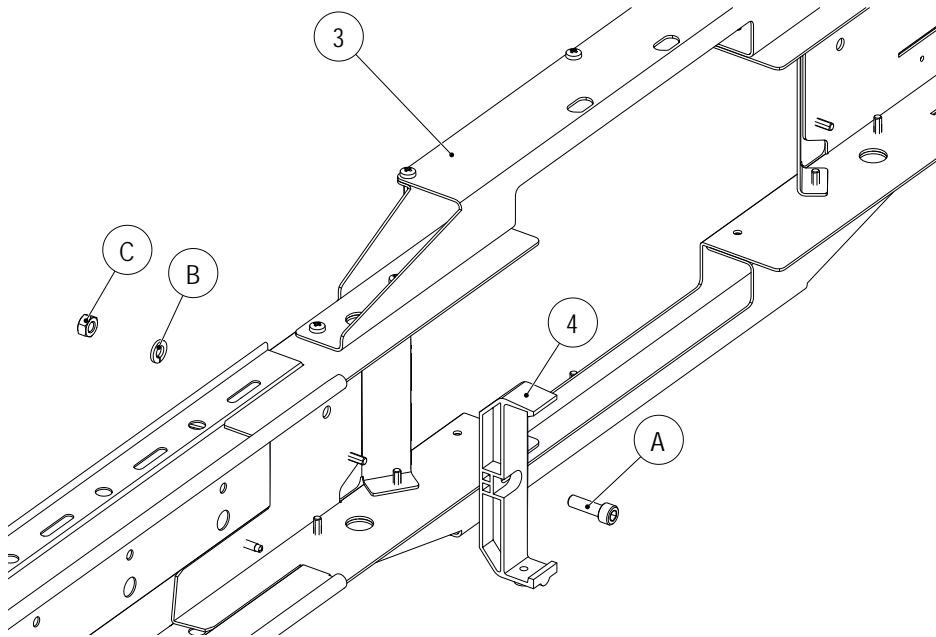
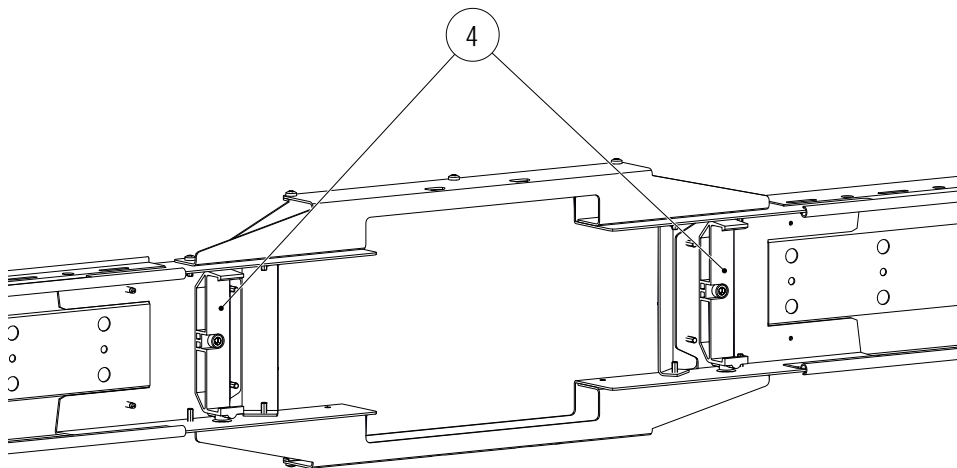

Fig. 69: Install anchor point (4) on fastening frame (3)
Fig. 70: Anchor points (4) are installed
1. If the anchor points (4) are not yet installed on the fastening frame (3), they must first be installed using the screw connections (A, B and C) (see Fig. 69 and Fig. 70).
- The anchor points are installed on the right and left of the fastening frame (see Fig. 69 and Fig. 70)
- The anchor points are installed on the fastening frame of the line feed (see Fig. 69) and the conductor rails are completely hung.